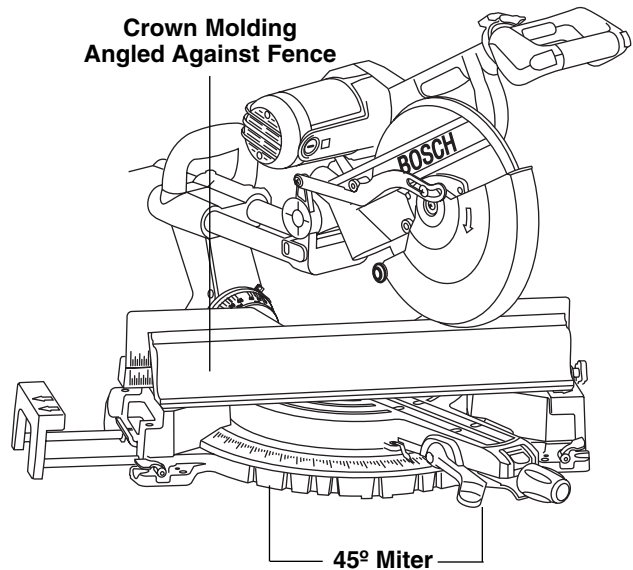

Figure 36. Crown Molding Angled to Table and Fence
2. For 90° corner, set the miter angle using Chart below. Tighten the miter lock knob (Figure 36).